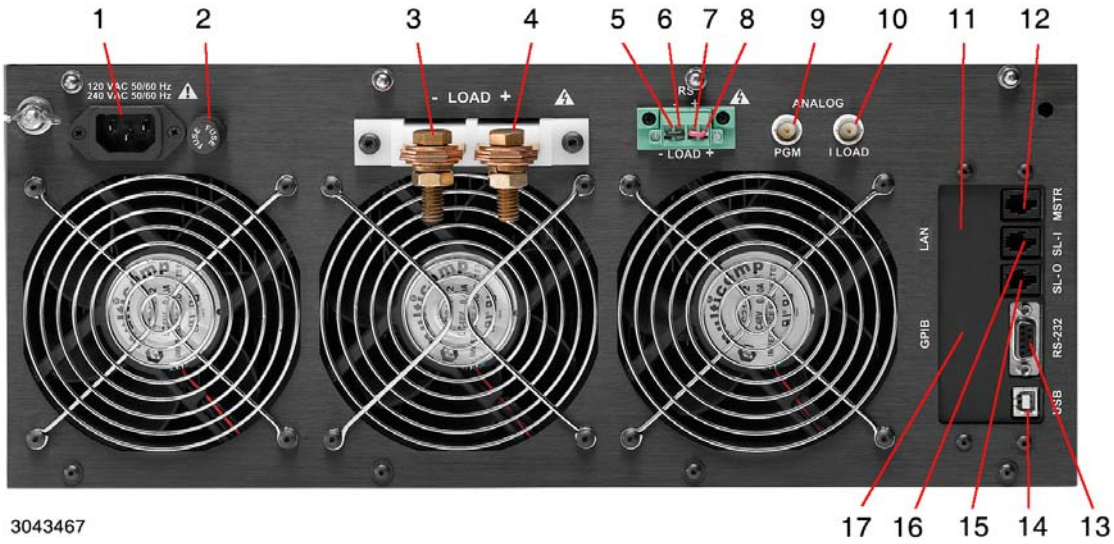
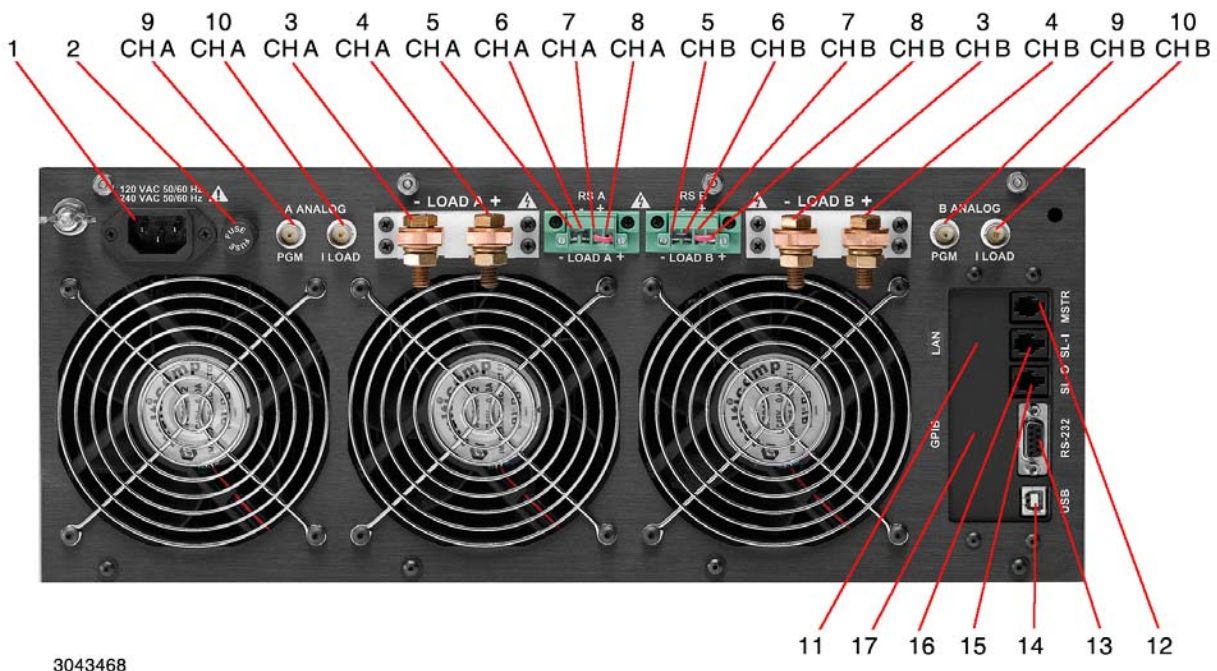

FIGURE 2-3. SERIES EL, REAR PANEL TERMINATIONS AND CONNECTORS
FIGURE 2-4. SERIES EL, DUAL MODELS, REAR PANEL TERMINATIONS AND CONNECTORS
2.2.2 REAR PANEL CONNECTIONS. Figure 2-3 shows the rear panel of standard units; figure 2-4 shows the rear panel of dual-channel units. Table 2-2 presents the functions of all rear panel connections. Rear panel connections listed in Table 2-2 are duplicated for identical (but independent) channels A and B of the dual-channel units, with the exception of the single power inlet connector and fuse which apply to both channels.
6. Change the mains fuse to correspond to the type and rating suitable for the selected mains voltage operation (see Figure 2-3).
Mains power is connected at the rear panel of the Series EL Electronic Load (see Figure 2-3) via the IEC 320-style recessed power inlet connector, which provides interface to the three-wire safety line cord (supplied) via a polarized mating plug. (see PAR. 2.3 for mains power requirements).
If remote sensing is not used, the pre-installed local sensing jumpers must remain in place as shown in Figure 2-3. Operating the unit with neither local or remote sensing in place will result in erroneous readings.